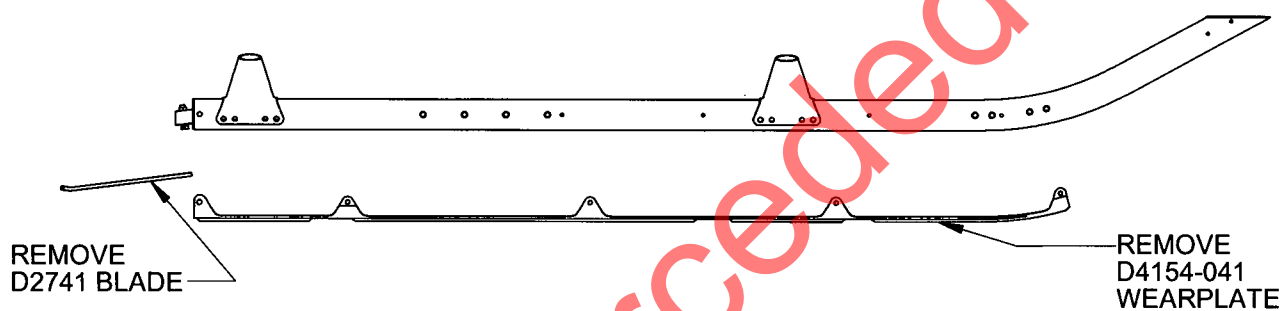

FIGURE 3: BLADE/WEARPLATE REMOVAL
- 5.1 Refer to Figure 3 below. Remove and retain the components indicated per ICA-D350-636, Sections 32.3 and 32.4. Ensure the AN8 fasteners are serviceable.